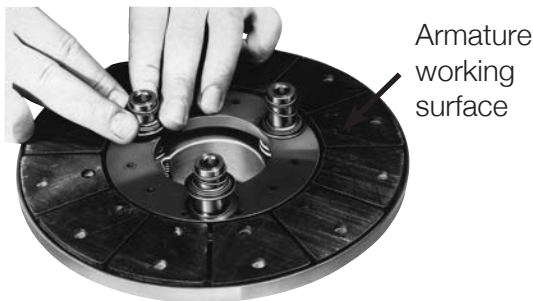

Figure 3 - Positioning detent cups in armature.
Step 6: Place the armature hub assembly on a flat surface with the armature's working face up. Push down on each detent cup (Item 6) with your fingers, sliding the armature down until the armature will move no further. (See Figure 3)